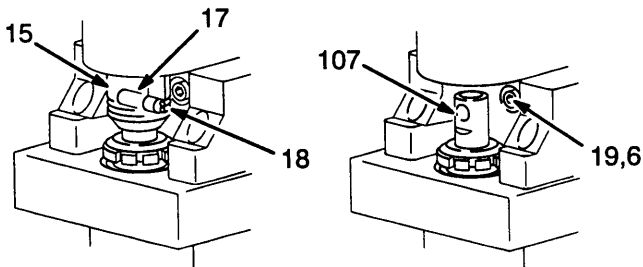

Fig 26-1
4. Push up the retaining spring (18). Push the pin (17) out the rear. See Fig 26-1.
5. Rotate the blades of the motor fan to raise the crank (12). Turn the displacement rod (107) so the pin hole aligns with the bottom screw (19). See Fig 26-1.
6. Remove the three screws (19) and the two motor screws (5) and their lockwashers (6).
7. Tap the lower rear of the drive housing (11) with a plastic mallet to loosen the motor. Pull the drive housing straight off the motor while guiding the harness (A) from the motor.